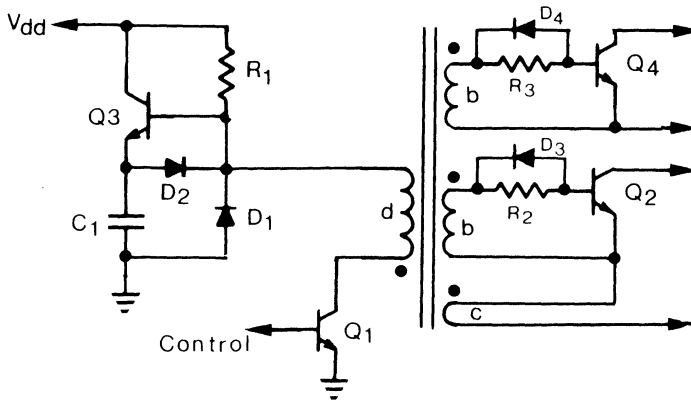

Figure 5. Two-Transistor Driver
As shown in Figure 5, it is also necessary to add a small amount of resistance in series with each base in order to ensure current sharing. A resistor which drops 0.5 volts at maximum sustaining base drive, I_b , should be adequate. The added resistance does not affect the calculation of N_d in Equation (8) because its voltage drop is negligible compared to V_{be} under light load conditions, when the sustaining base drive is small. However, during turn-off, each series base resistor must be shunted by a